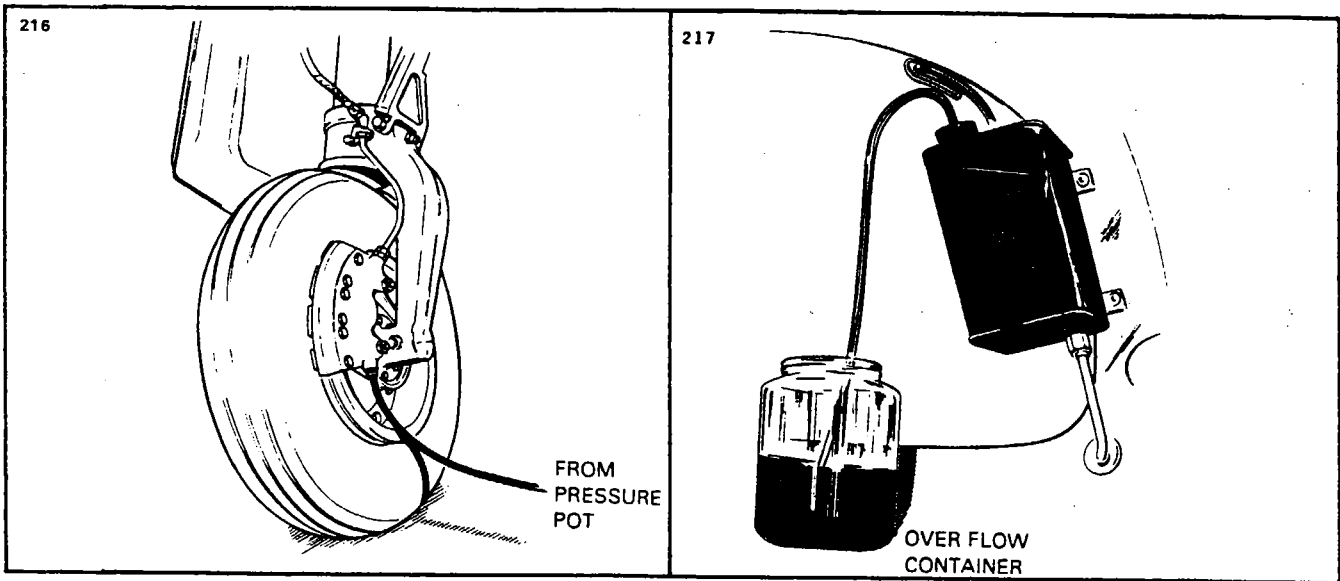

Figure 7-19. Bleeding Brake
- c. Slide a hose over the bleeder fitting, loosen the fitting one turn and pressure fill the brake system with MIL-H-5606 fluid. (Refer to Figure 7-19.)